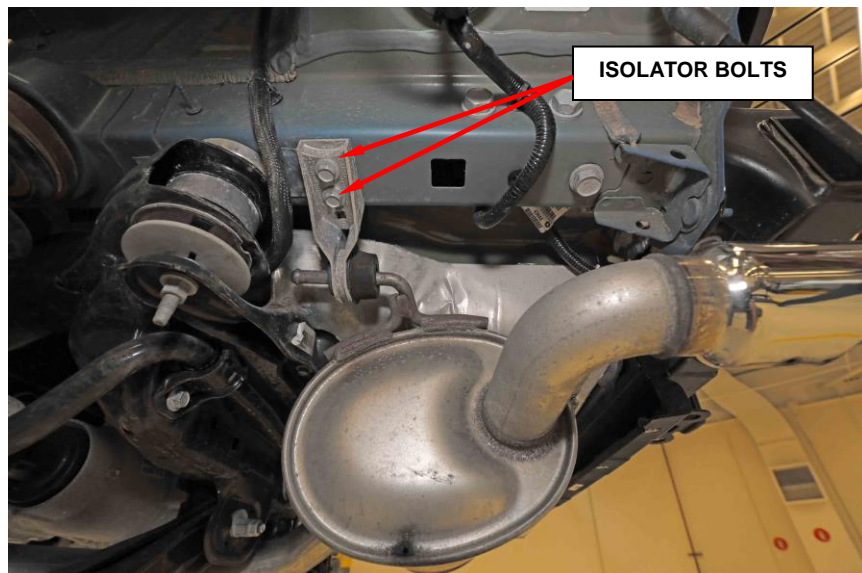

Figure 7 – Isolator Bolts
2. Remove the exhaust isolator bolts securing the exhaust muffler. Driver side shown, passenger side similar (Figure 7).
5. Install the exhaust isolator bolts and tighten to 20 N·m (15 ft. lbs.) (Figure 7).